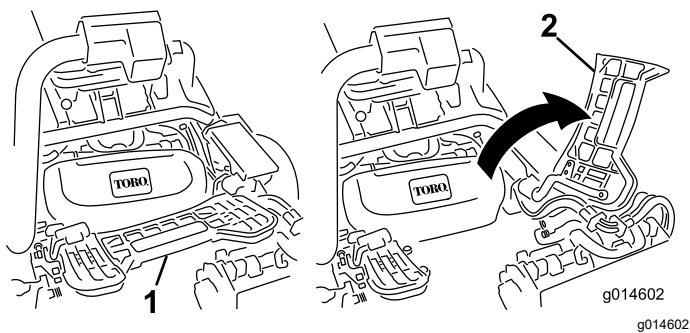

Figure 69
2. Lift up on the foot rest and swing it open, allowing access to the center cutting unit position (Figure 69).